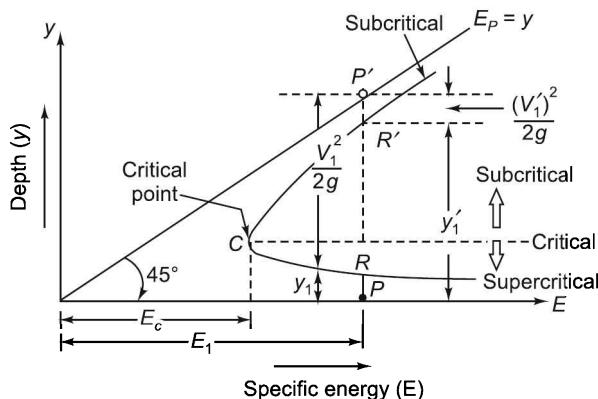

FIGURE 18.58 Specific energy curve.
In case discharge (q) is constant, then variation of specific energy (E) depends upon depth (y). Specific energy is a cubic parabola with depth (y) and its variation is shown in Figure 18.58.
In specific energy curve as shown in Figure 18.58. The ordinate PP' represents the condition of specific energy E_1 . The alternate depths of flow are $PR = y_1$ and $PR' = y'_1$ which have same value ' E_1 ', of specific energy with same flow ' q_1 '. The intercepts